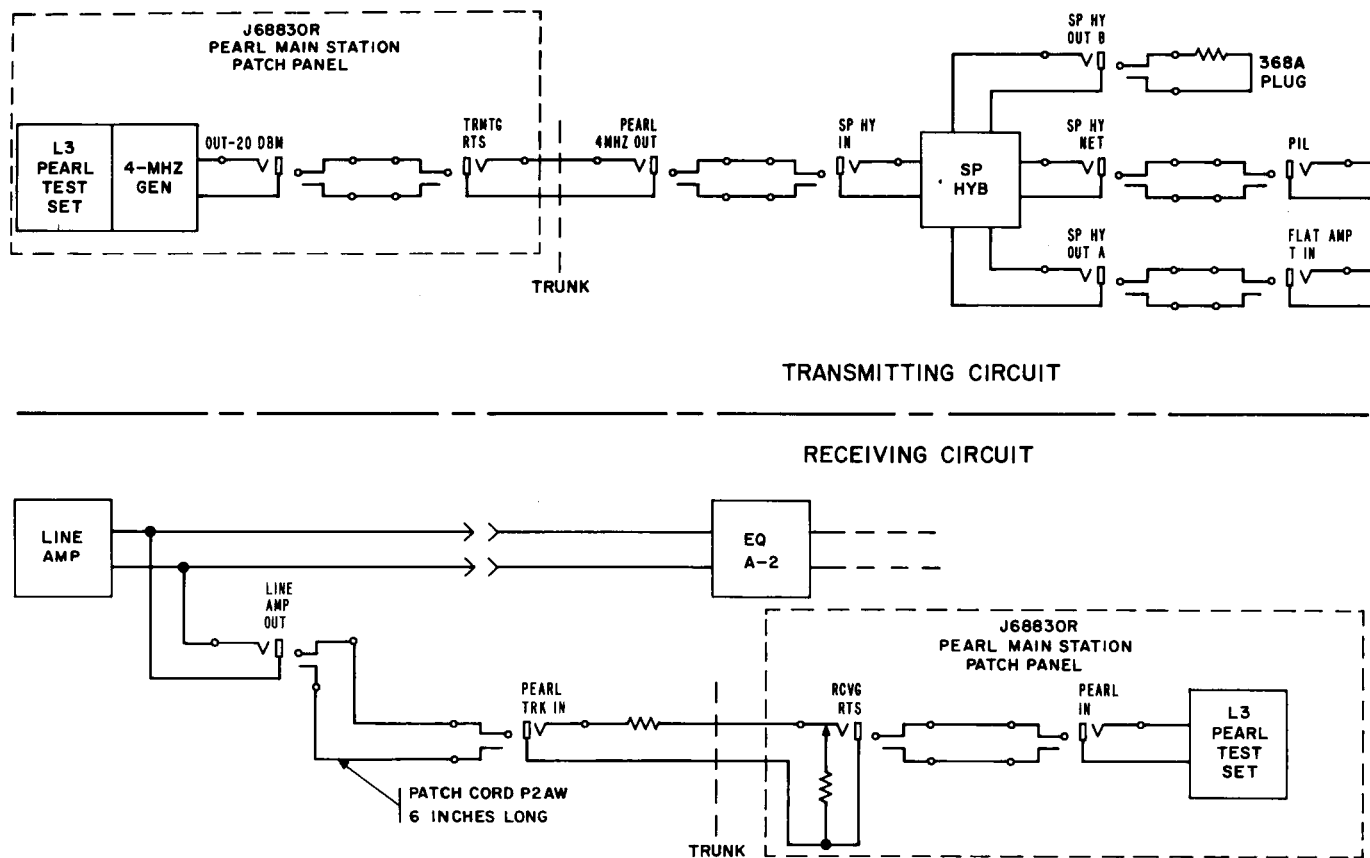

Fig. 2—Measurements at Main Repeaters
- 4 Patch from the PEARL IN jack on the PEARL test set to the RCVG RTS jack of the line under test (receiving circuit, Fig. 2).
At the transmitting main station terminal (Fig. 2):
At the receiving main repeater terminal (Fig. 2):
2	Patch from the RTE to the RCVG RTS jack of the line under test (Fig. 2). Note: The needed bridging pad is a part of the built-in RCVG RTS circuit.